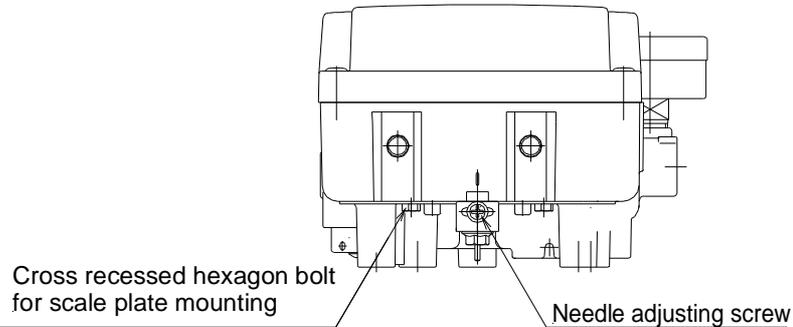

Fig.22 Positioning of needle
- ( 2 ) Stop positioner at intermediate opening of actuator (where input signal of 50% finishes to enter to the positioner) and adjust the position of needle to meet with 50+% of scale plate. (Refer to Fig.22) If the needle can't be met with 50+% even with adjustment, stop pressure supply once, reposition fork lever type fitting and cam, and readjust zero span.